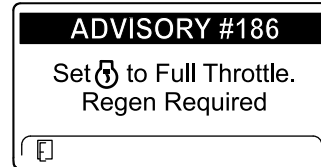

Figure 49
**Note:** If the engine exhaust temperature is too low, the InfoCenter displays ADVISORY #186 (Figure 49) to inform you to set the engine to full throttle (high idle).